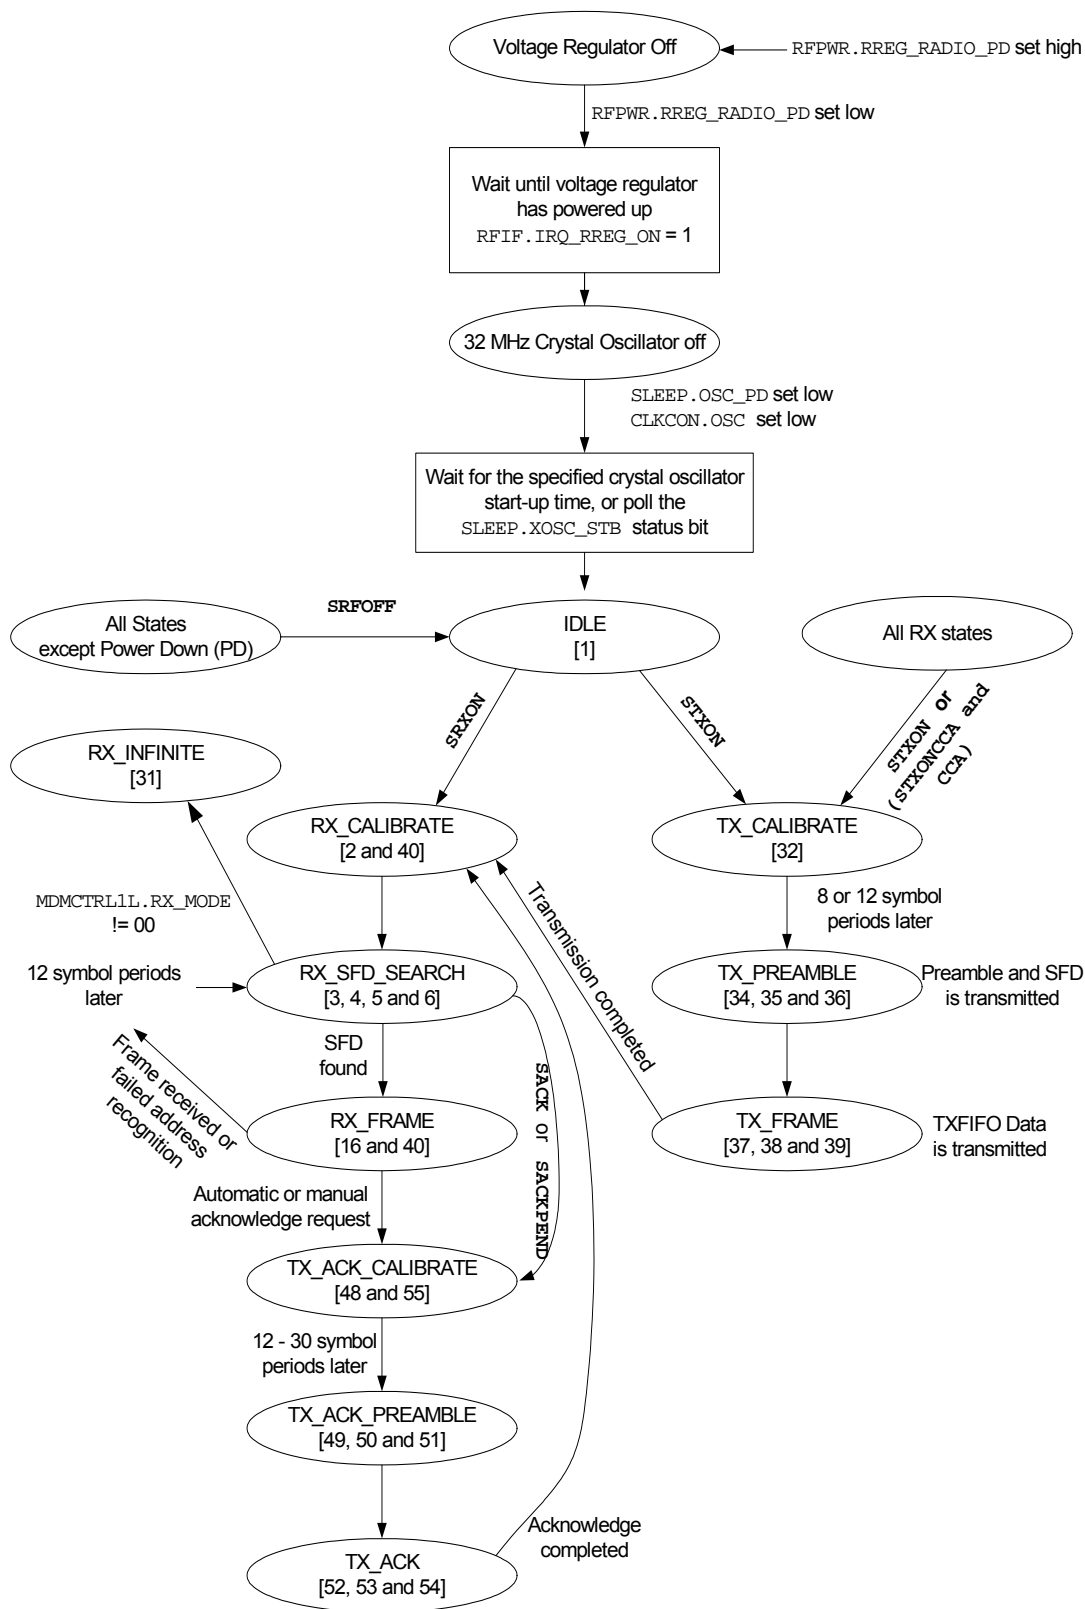

Figure 54: Radio control
The radio control state machine states are shown in Figure 54. The numbers in brackets refer to the state number readable in the `FSMSTATE` status register. Reading the `FSMSTATE` status register is primarily for test / debug purposes. The figure assumes that the device is already placed in the PM0 power mode.
For test purposes, the frequency synthesizer (FS) can also be manually calibrated and started by using the `STXCALN` or `ISTXCALN` command strobe (see section 0 and 0). This will not start a transmission before a `STXON` command strobe is issued. This is not shown in Figure 54.
automatically calibrated every time the RX mode or TX mode is enabled, i.e. in the `RX_CALIBRATE`, `TX_CALIBRATE` and `TX_ACK_CALIBRATE` control states in Figure 54 on page 177.